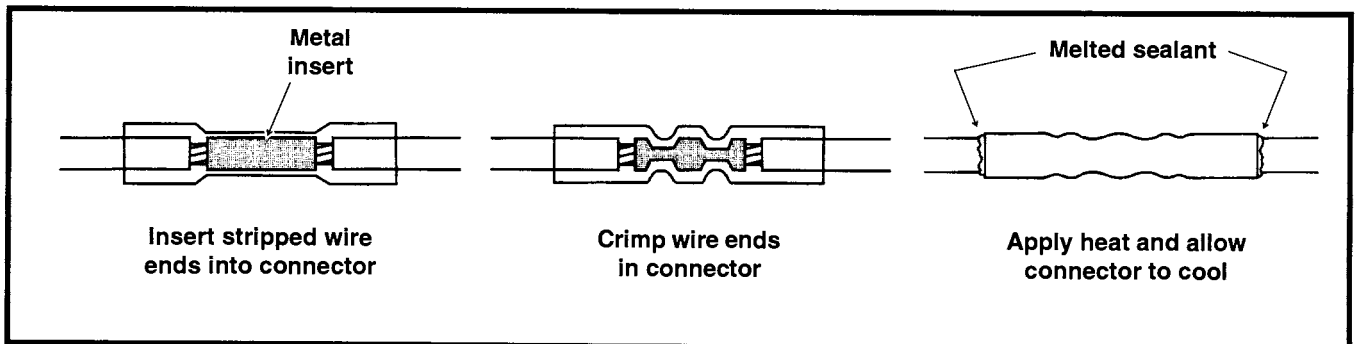

Figure 161. Installing Sealed Butt Connectors
- Insert wires into opposite ends of the butt splice connector. See Figure 161. Feed the wires into the connector until the stripped ends are housed within the metal insert. Since the size of the connectors vary with the gauge of the wire, reference the following table to ensure properly sealed splices.
- Using the UltraTorch UT-100 (HD-39969), Robinair Heat Gun (HD-25070) with heatshrink attachment (HD-41183) or other suitable radiant heating device, heat the crimped splice to encapsulate the butt splice connection. Apply heat from the center of the crimp out to each end until the meltable sealant exudes out both ends of the connector. See Figure 161.